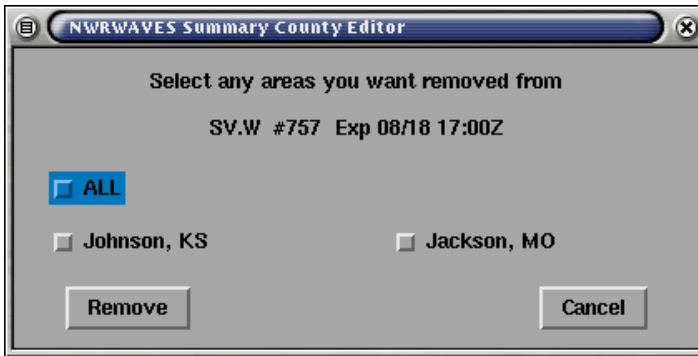

Figure 10 – NWRWAVES summary message editing GUI interfaces
- b. **View/Edit VTEC_Summary File** – For offices using the summary message capabilities described in Section 3 – Tab 3 (page 17), users can manually edit/delete specific product summary messages should the automated VTEC replacement method fail. The pop-up GUI which appears when there are active hazards being track for summarization (Figure 10) is a simple interface. You select the hazard you which to modify from a list of buttons, and then you can either clear all LAC(s) at once or selected LAC(s) through their individual radio buttons. Sites will rarely (if ever) need to use this interface, since active hazards are tracked through VTEC action codes in follow-up statements. This will be a useful interface though, if you track a non-VTEC hazard such as an FFW in the interim period before full VTEC implementation.